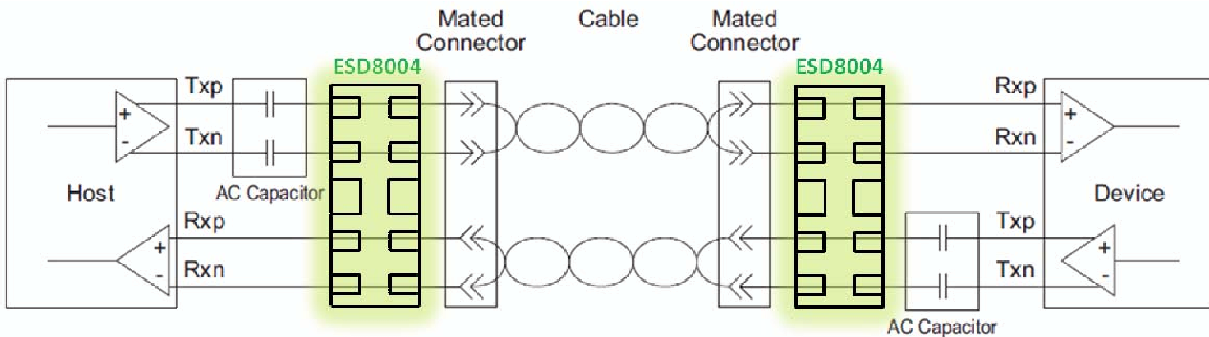

Figure 14. USB 3.0 Connection Diagram
- ◆ In USB 3.0 applications, the ESD protection device should be placed between the AC coupling capacitors and the I/O connector on the TX differential lanes as shown in Figure 14. In this configuration, no DC current can flow through the ESD protection device preventing any potential